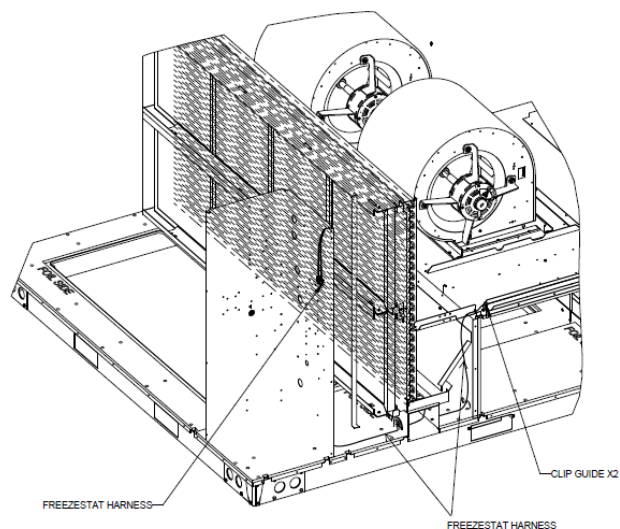
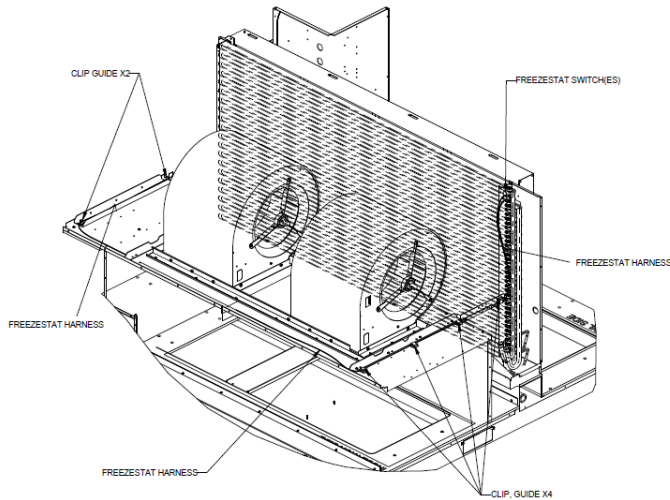

FIGURE 5
FIGURE 6
5. Route the remaining freeze stat harness wire from the control box to the curl pins at the end of evaporator coils. Route shown in Figure 5 & 6. Use the 6 Clip Guides to help route the wires. See Figure 6 for locations.